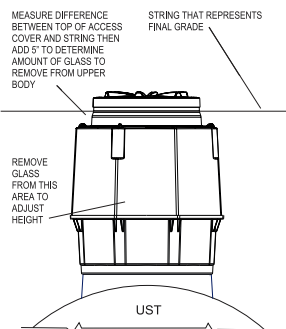

FIGURE 5
A. To determine the overall height that you will need for your sump, you can dry fit the upper body to the base by simply setting in the base's trough. By pulling a string across your excavation to represent your final grade, you can measure the height of the sump and adjust the height to ensure that the top of the Access Cover comes no closer than 6" and no further than 12" from the top of your final grade. Refer to FIGURE 5.